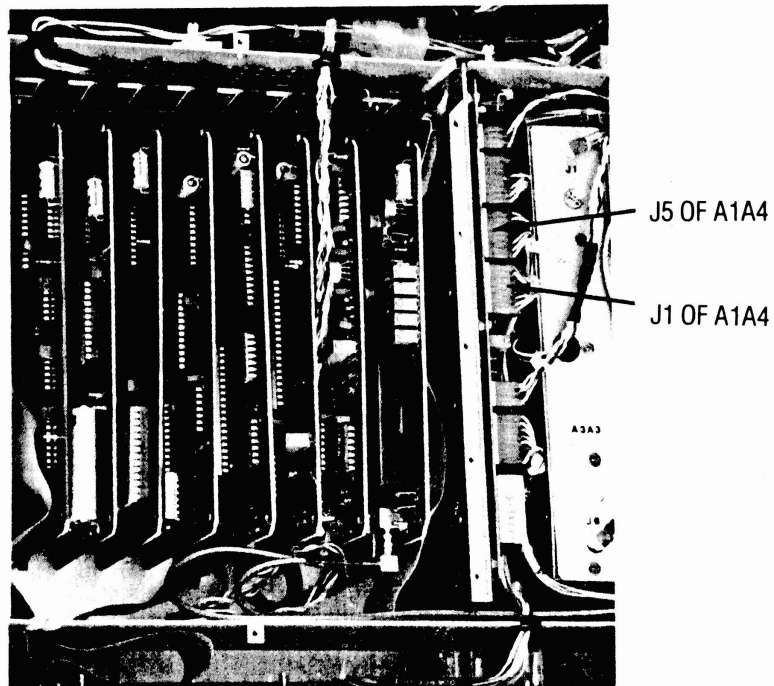

Figure 3-2. LOCATION OF J1 OF ASSEMBLY A1A4
3. Connect the positive DVM lead to the pin 4 (red wire) of connector J1 located on the A1A4 board. See Figure 3-2 for the location.
9. Connect the positive DVM lead to pin 7 (orange wire) of connector J5. See Figure 3-2 for the location. The voltage reading should be +30 volts, +2.0 volts, -.5 volts.
- 3A. Connect the positive DVM lead to pin 4 (red wire) of connector J1 located on the A1A4 board . See Figure 3-2 for the location of J1.
- 6A. Connect the positive DVM lead to pin 3 (blue wire) of connector J1 of the A1A4 board. See Figure 3-2 for the location. The voltage reading should be -15 volts, $\pm .2$ volts.
- 8A. Connect the positive DVM lead to pin 2 (yellow wire) of connector J1. See Figure 3-2 for the location. The voltage reading should be $+15$ volts, $\pm .2$ volts.
- 10A. Connect the positive DVM lead to pin 7 (orange wire) of connector J5. See Figure 3-2 for the location. The voltage reading should be $+30$ volts, $+2.0$ volts, $-.5$ volts.